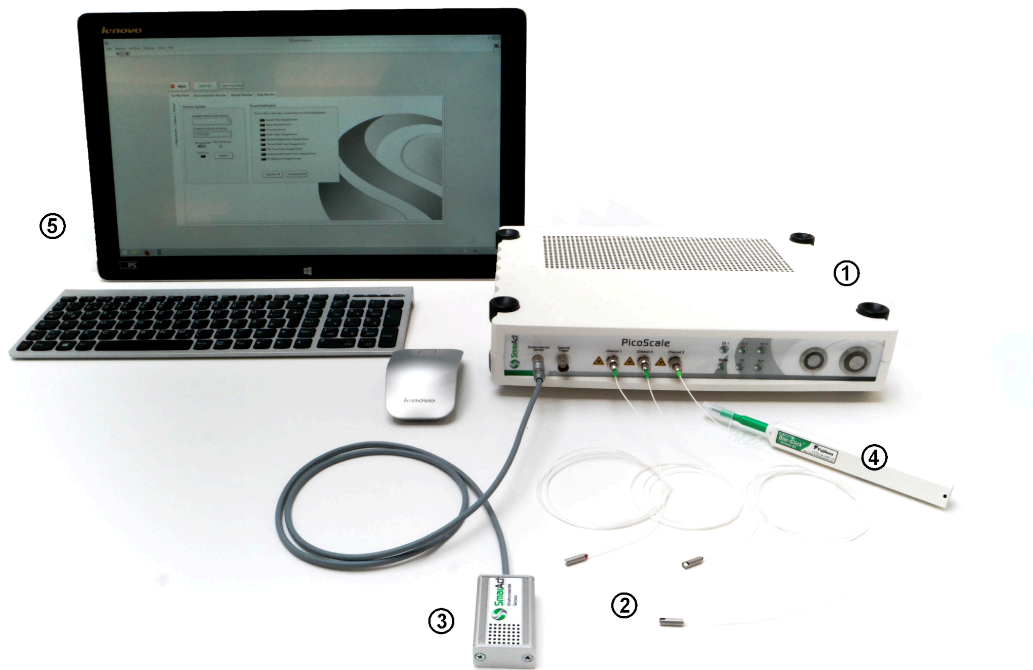

Figure 5.1: Basic accessory, consisting of (1) **PICO SCALE** Controller, (2) sensor heads, (3) Environmental Module, (4) One-Click cleaner and (5) User PC.
This chapter provides an introduction to the **PICO SCALE** Hardware. The basic accessories are shown in figure 5.1. The main component is the **PICO SCALE** Controller. It is available as a table-top version (1) and a 19" rack version. Up to three measurement heads (2) and an environmental module (3) can be connected to the controller. Typically each **PICO SCALE** system is shipped with some additional accessory (4) like a One-Click cleaner pen, head adapters, mirror mounts, etc. Finally, a PC (5) is required. It is not part of the **PICO SCALE** system and must be provided by the user.